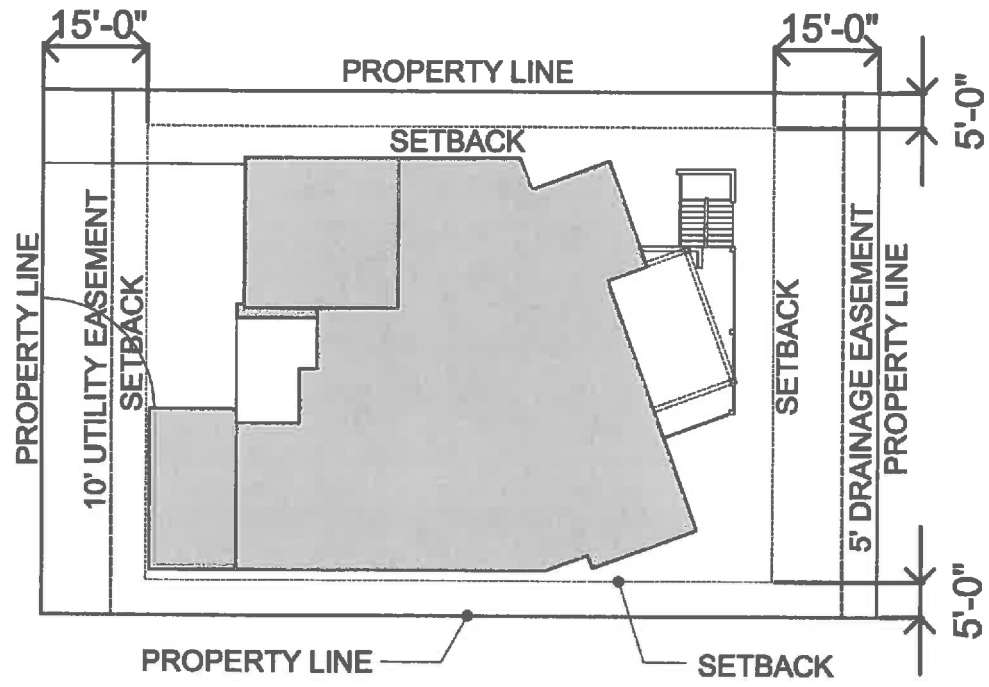

Figure 5. Front and Rear Yard Setbacks
- 4.1.9.10.a - Minimum Front Setback (see Figure 5 and 7a)
- 4.1.9.10.b - Minimum Rear Setback (see Figure 5 and 7a)
- 4.1.9.10.c - Minimum Side Setback and Stepbacks (see Figures 5, 6 and 7a)